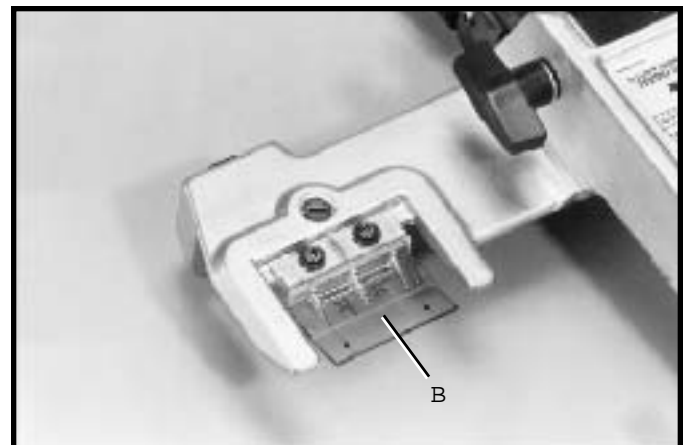

Fig. 64
2. Fig. 64, illustrates the cursor (B) assembled to the Unifence body. Adjustment to the cursor (B) will be made later.